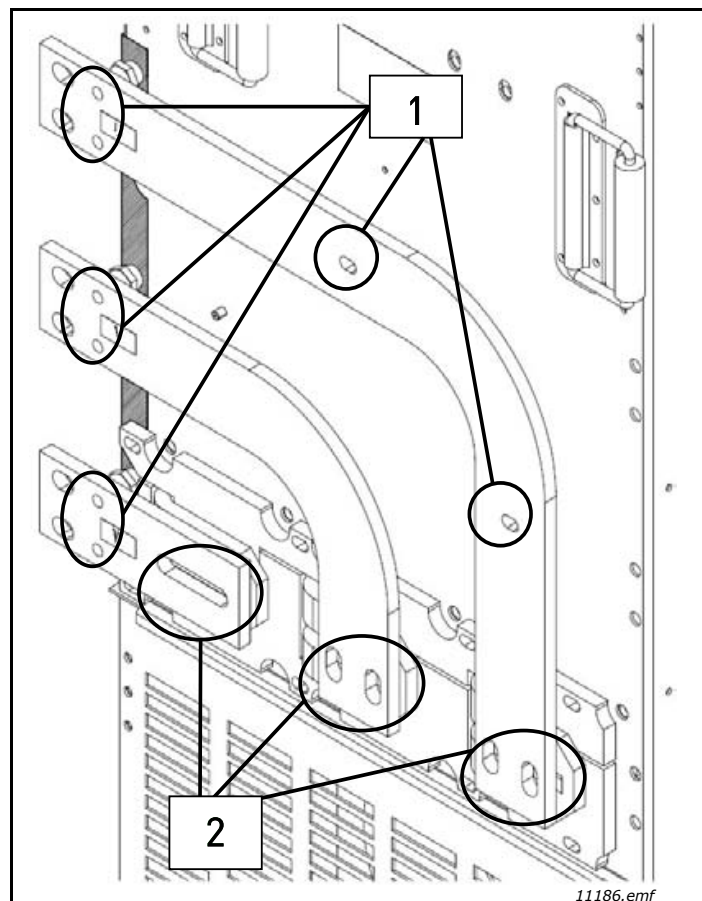

Figure 35. Left-side connection
5. Place the bus bars like in Figure 35.
6. Close fastenings numbered by 2 in Figure 35.
7. Close fastenings numbered by 1 in Figure 35.